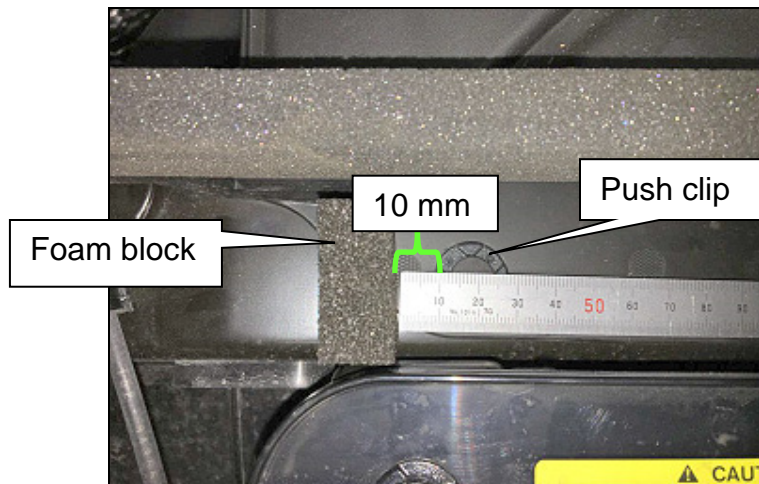

Figure 3
6. Install the foam block so that it is 10 mm from the edge of the intake push clip as shown in Figure 3.